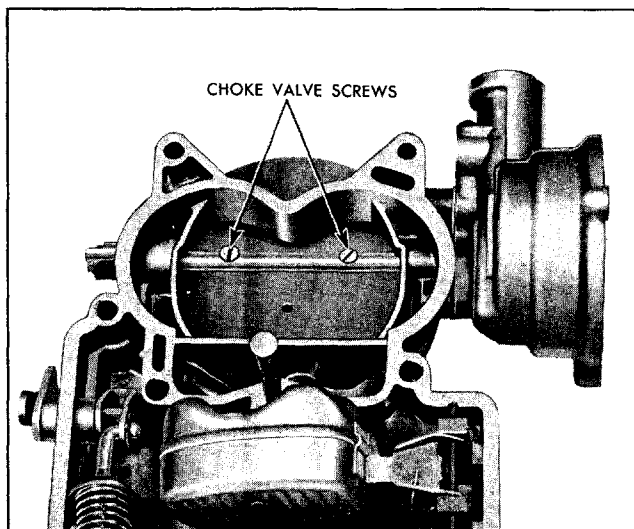

Fig. 6B-90 Location of Choke Valve Attaching Screws
8. Remove two choke valve screws, then remove choke valve (Fig. 6B-90).